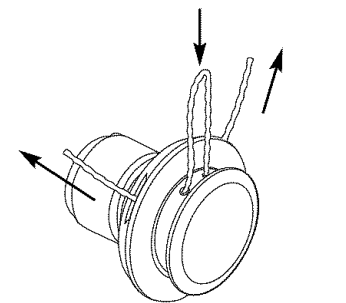

Fig. 11
5. Push and/or pull the line so that the line is snug against the hub and is fully extended through the positioning tunnels (Fig. 11).